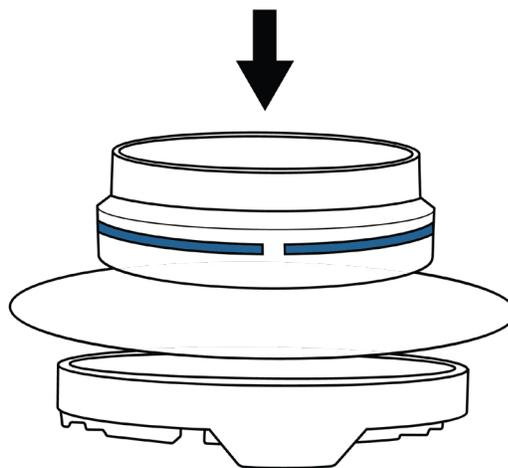

Figure 2 Saturation plate, adapter, and filter paper
4. Put the blue marked part of the adapter on the saturation plate (Figure 2). Be sure to place it with the blue marking line downward on the saturation plate and covered with a filter paper.